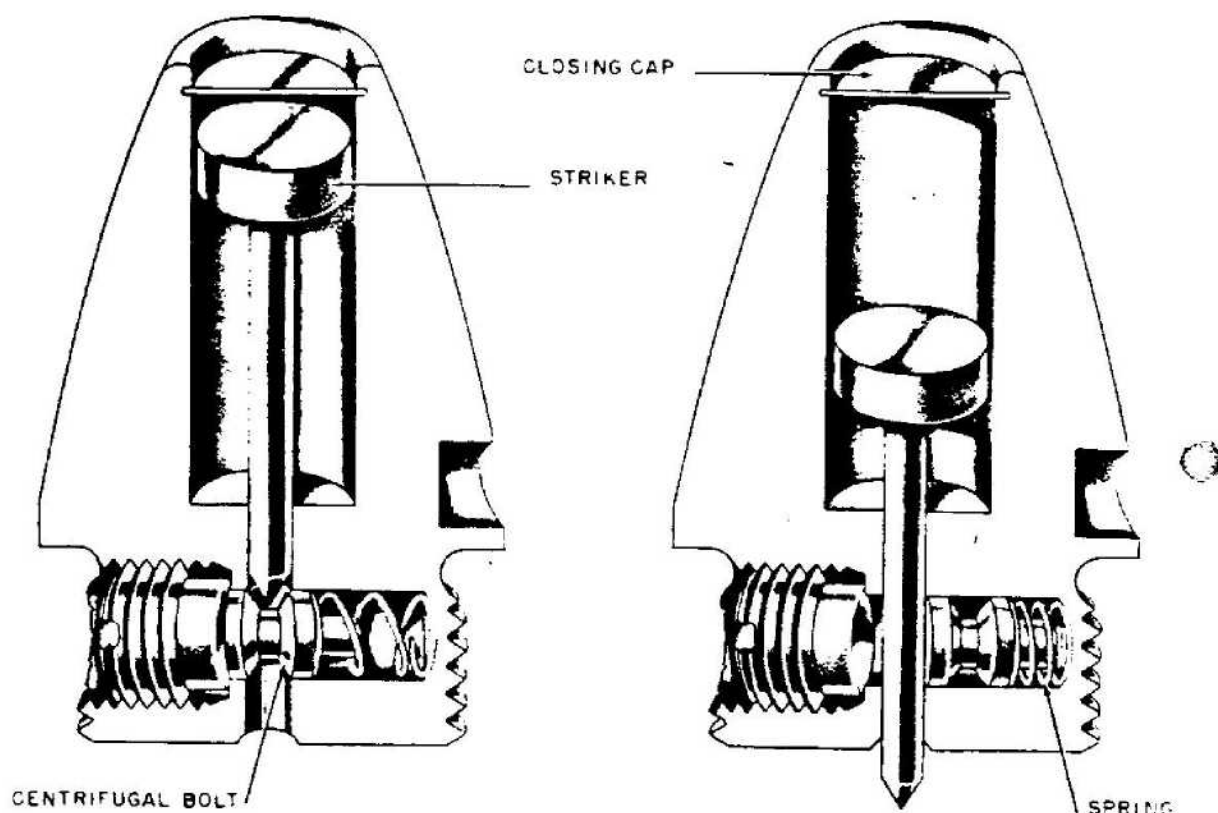

Figure 556—A. Z. 1532
**EMPLOYMENT:** Nose fuze used in German 13-mm ammunition. (See fig. 556.)